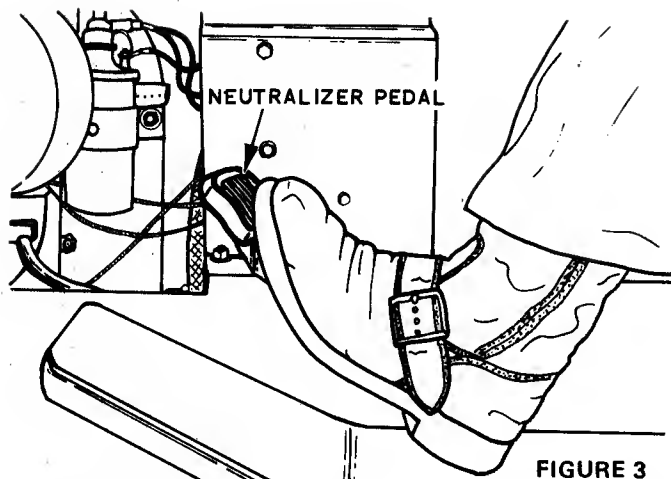

FIGURE 3
For emergency or "panic" stops, the neutralizer pedal and brake pedal can be used, see Figure 3. When the neutralizer pedal is depressed, the control lever is shifted to the neutral (N) position from either the forward or reverse positions, then use the brake pedal to stop the tractor if motion continues.